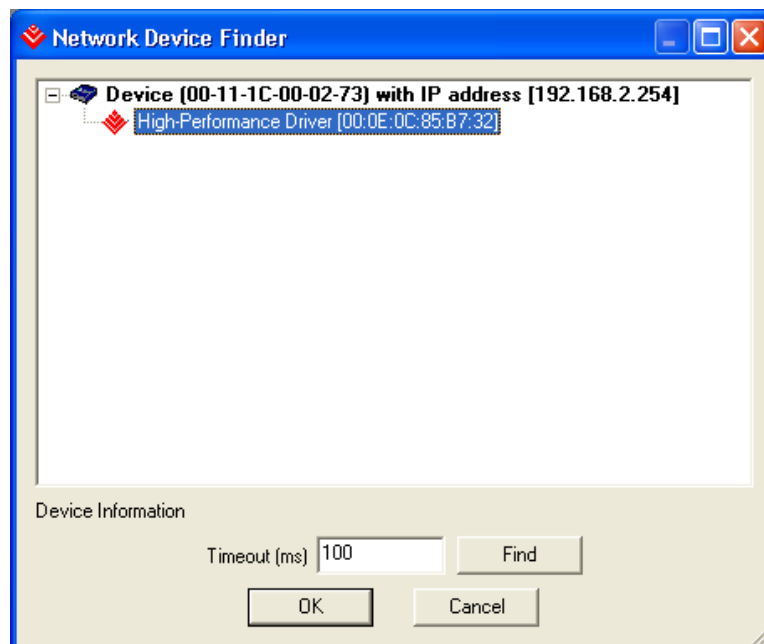

Figure 7: Network Device Finder Dialog
- **Detect:** Invokes the Network Device Finder dialog, shown in Figure 7, which searches the network for available LYNX Cameras. When the user selects one of the found GigE cameras, the camera will fill the IP Information section of the device page. The dialog detects devices in the following order: